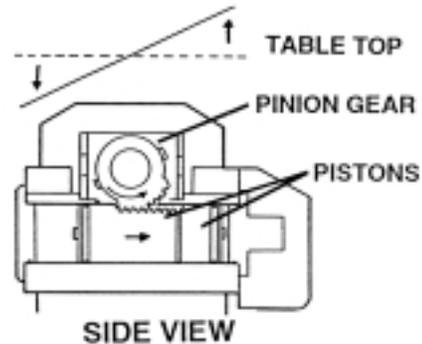

Figure 1-11. Trendelenburg Cylinder Assy.
2. Trendelenburg Cylinder Assembly - This cylinder / piston arrangement has rack teeth cut into the top of each piston. These teeth mesh with a pinion gear that is connected directly to the table side frames. The pinion gear shaft and table side frames are supported by bearings at either side. When hydraulic fluid is pumped into one side of the cylinder, the pistons are pushed in one direction, moving the pinion gear and table side frames with them. Oil pressure can be applied to either side of the piston, making the table tilt end for end. See figure 1-11.